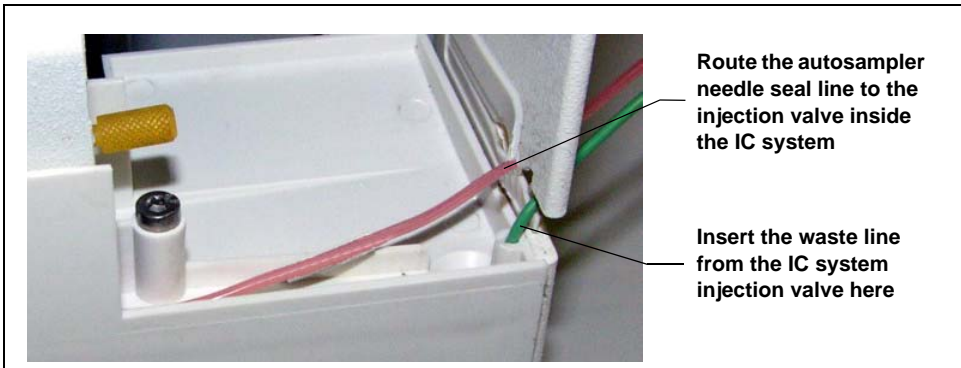

Figure 6. AS Drip Tray and Right Side Slot
3. Route the needle seal line that extends from the autosampler inject port through the autosampler right side slot (see Figure 6) and then through the IC system left side slot to the injection valve.
8. Push the end of the green waste line into the small round opening on the right side of the AS tray (see Figure 6).